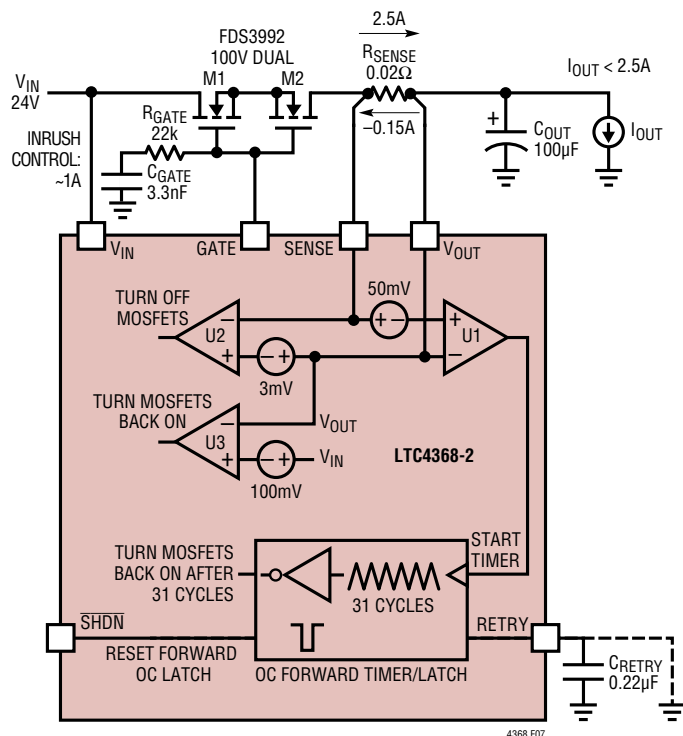

Figure 7. Overcurrent Comparators Monitor 2.5A/-0.15A Current Faults
The 3.3nF C_{GATE} capacitor in the application circuit of Figure 7 limits the inrush current to just over 1A. R_{GATE} prevents C_{GATE} from slowing down the reverse polarity protection circuits. It also stabilizes the fast pull-down circuits and prevents chatter during fault conditions. Set R_{GATE} to 22k for most applications.
Forward overcurrent protection prevents large currents from flowing from V_{IN} to V_{OUT} . This threshold current is determined by the external sense resistor (R_{SENSE}) and an internal comparator (Figure 7, U1) with a 50mV threshold:
For the example of Figure 7, if 2.5A flows to the output across the 20m Ω sense resistor, the external MOSFETs (M1, M2) are immediately (8 μ s) turned off. This disconnects the load from the input supply.
For the example of Figure 7, the 3.3nF GATE capacitor and the 100 μ F output capacitor limit the inrush current (I_{INRUSH}) to approximately 1A. This means that the output current (I_{OUT}) must be less than 1.5A during turn on in order to avoid a forward overcurrent fault during turn on. Once V_{OUT} has ramped to its final value, the output current is limited to 2.5A.
1. Automatically restart by placing an external capacitor on the RETRY pin. An internal cool-down timer will charge/discharge this capacitor 31 times with a 5.5ms/nF total delay. At the end of this delay, the external MOSFETs are turned back on, thus reconnecting the load to the input supply. The 0.22 μ F capacitor (C_{RETRY}) in the application of Figure 7 yields a 1200ms cool-down timer delay. Note that the adjustable cool-down period provides the user with a means of keeping the external MOSFETs within the rated SOA (safe operating area). See Figure 8 timing diagram.
Reverse overcurrent protection prevents large currents from flowing from V_{OUT} to V_{IN} . There are two options for reverse overcurrent protection thresholds. The LTC4368-1 (-50mV) bidirectional circuit breaker allows load current to flow in either direction: from V_{IN} to V_{OUT} or from V_{OUT} to V_{IN} . The LTC4368-2 provides diode-like behavior by making the reverse overcurrent threshold (-3mV) significantly smaller than the forward overcurrent threshold ($+50\text{mV}$). The reverse overcurrent fault threshold is determined by the external sense resistor (R_{SENSE}) and an internal comparator (Figure 7, U2). For the LTC4368-2 application of Figure 7:
To turn the MOSFETs back on, an internal comparator (Figure 7, U3) detects when V_{OUT} drops 100mV below V_{IN} :